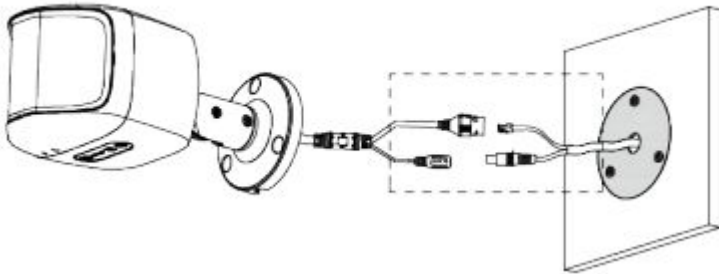

Figure 2-2
**Step 2** Install the expansion screws through the mounting surface. Route the cabling as needed through the mounting surface or the side exit notch of the camera base. See Figure 2-2.